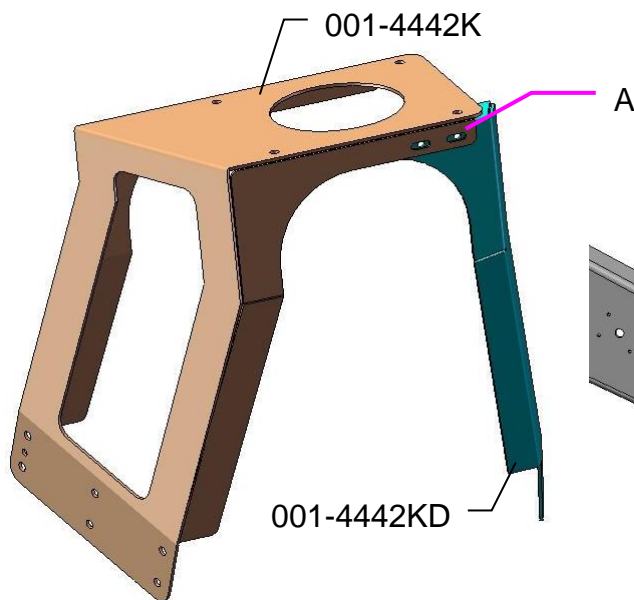

Figure 1
Locate tank saddle legs (001-4442K & 001-4442D) as shown in figure 1. Fasten leg 001-4442D to 001-4442K with two 3/8 x 1 1/4" bolts, locks, flats, and nuts at point A.
2. If your baler is not equipped with bale shaping pads you will need to drill a hole in the chamber directly behind and above the starting roll. (Figure 1)
3. The mounting hole will be 3/4" in diameter. Use a plastic pad (006-4641F) and place it into the baler to use as a template. The bottom edge of the pad will be placed 1" up from starting roll and 2" from the back of the bale chamber. (Figure 1)